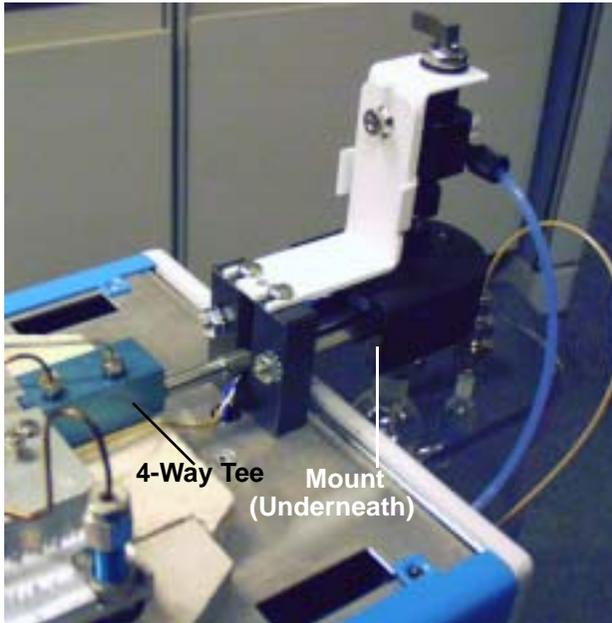

Figure 2-17: 4-Way Tee and Mount Location
- Mount (Figure 2-17)
- 4-way tee (Figure 2-17)